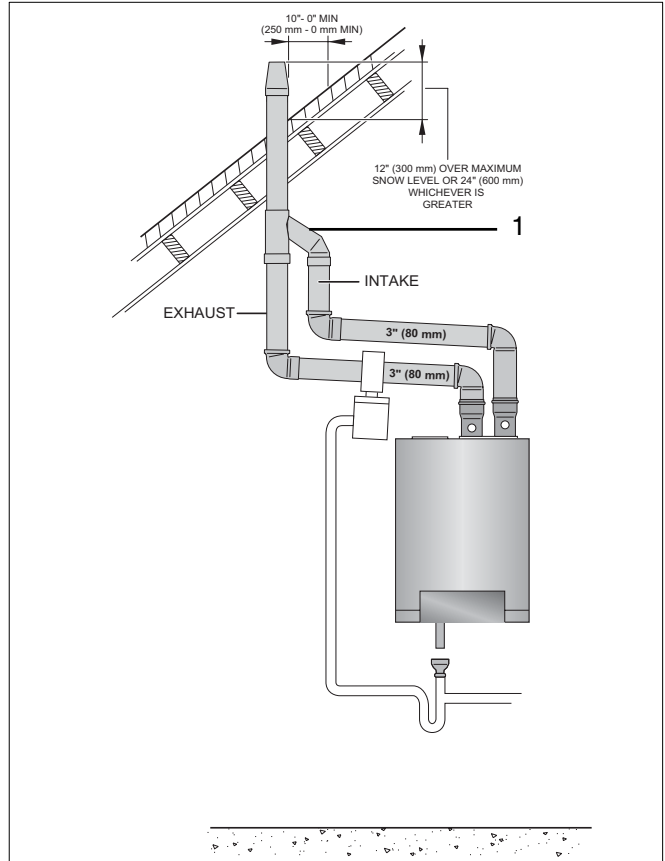

Fig. 15 Vertical venting system (sealed combustion)
An optional concentric vent/air intake body (see fig. 15, pos. 1) can be used for the installation of a vertical venting system as well as for a horizontal venting system. The concentric vent/air intake body can be ordered by Buderus Hydronic Systems, part no. BRYKGAVTO601CV.